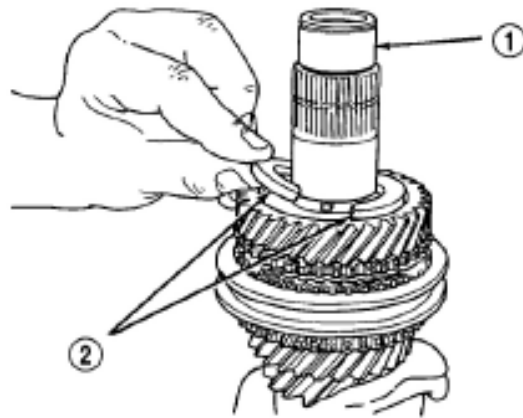

Figure 3-127 Disassembly of split thrust washer
(5) Remove the split thrust washer (Figure 3-127).